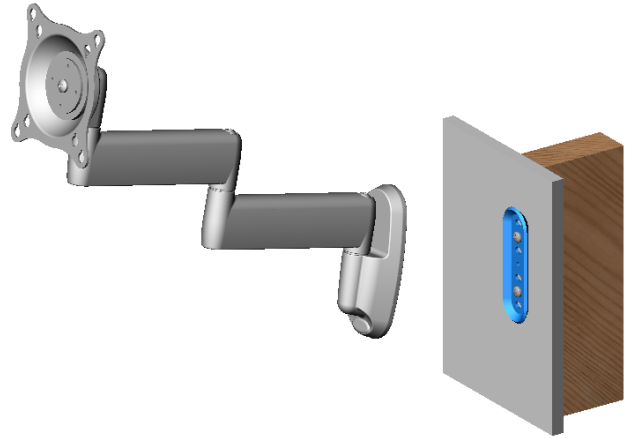

Figure 5. Install FWD-111 on Wall Bracket
1. Install the FWD-111 on the wall bracket by placing the top of the FWD-111 over the top of the wall bracket and pushing the bottom of the FWD-111 over the bottom of the wall bracket (see Figure 5).